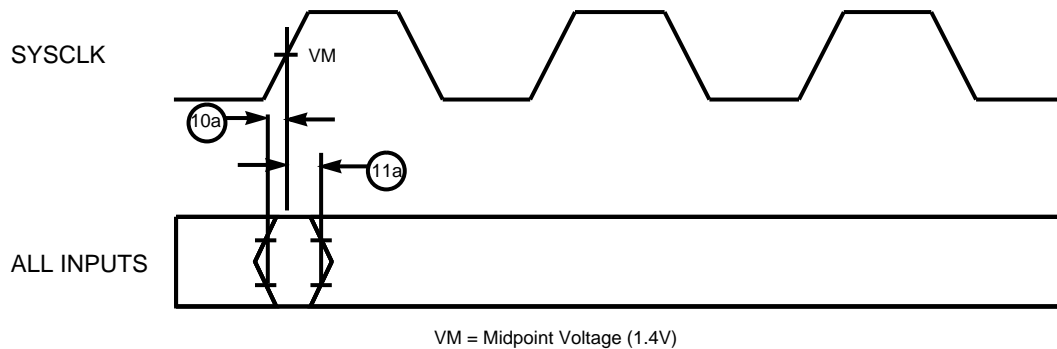

Figure 2. Input Timing Diagram
1. All input specifications are measured from the TTL level (0.8 or 2.0 V) of the signal in question to the 1.4 V of the rising edge of the input SYSCLK. Both input and output timings are measured at the pin; see Figure 2.